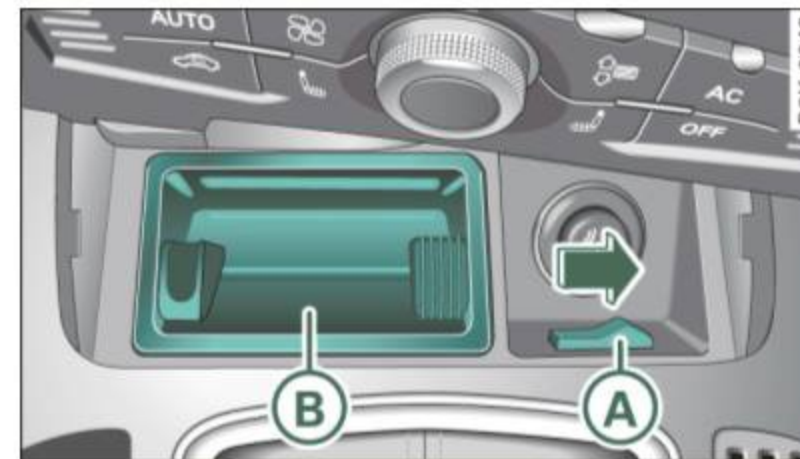

Fig. 99 Center console: front ashtray
- Release the ashtray insert by sliding the switch (A) ⇒ *page 89*, fig. 99 to the right.
- Remove the ashtray insert (B) ⇒ *page 89*, fig. 99.